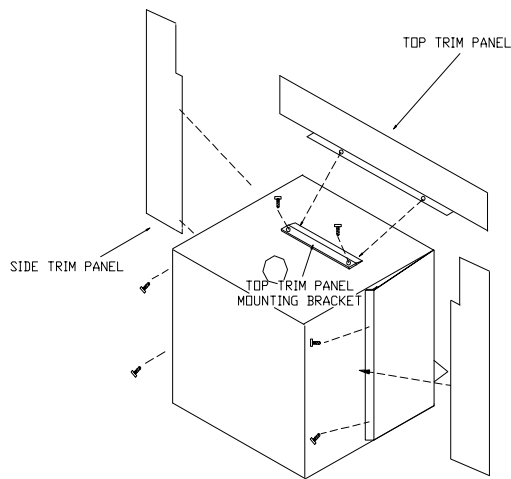

FIGURE 3 **MOUNTING TRIM PANELS**
1. Place side trim panels in place, flat against the face of the fireplace. Mark down front edge of trim panel with a pencil to make a vertical reference line. (See Figure 3).
4. Mount side trim panels. (See Figure 3).
12. Using insulation provided, peel and stick to back of panels overlapping fireplace dimensions by 1" on each side and top. (See Page 8, Figure 3).